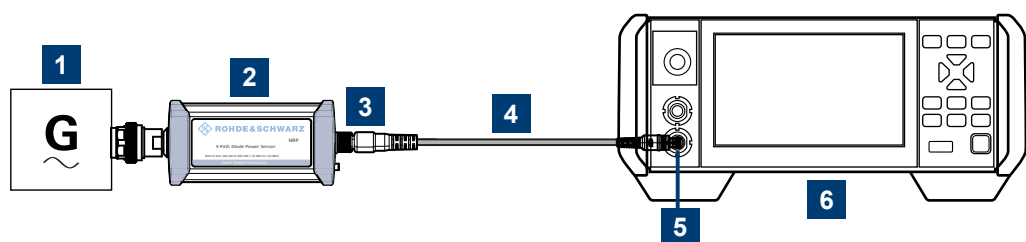

Figure 5-4: Setup with an R&S NRX base unit
2. Connect the cables as shown in Figure 5-4.